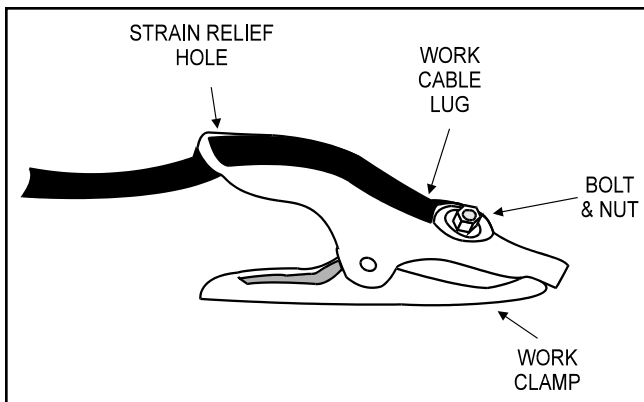

FIGURE A.7 - Installing The Work Clamp
1. Insert the lug on the end of the work cable through the strain relief hole in the work clamp handle. See Figure A.7.